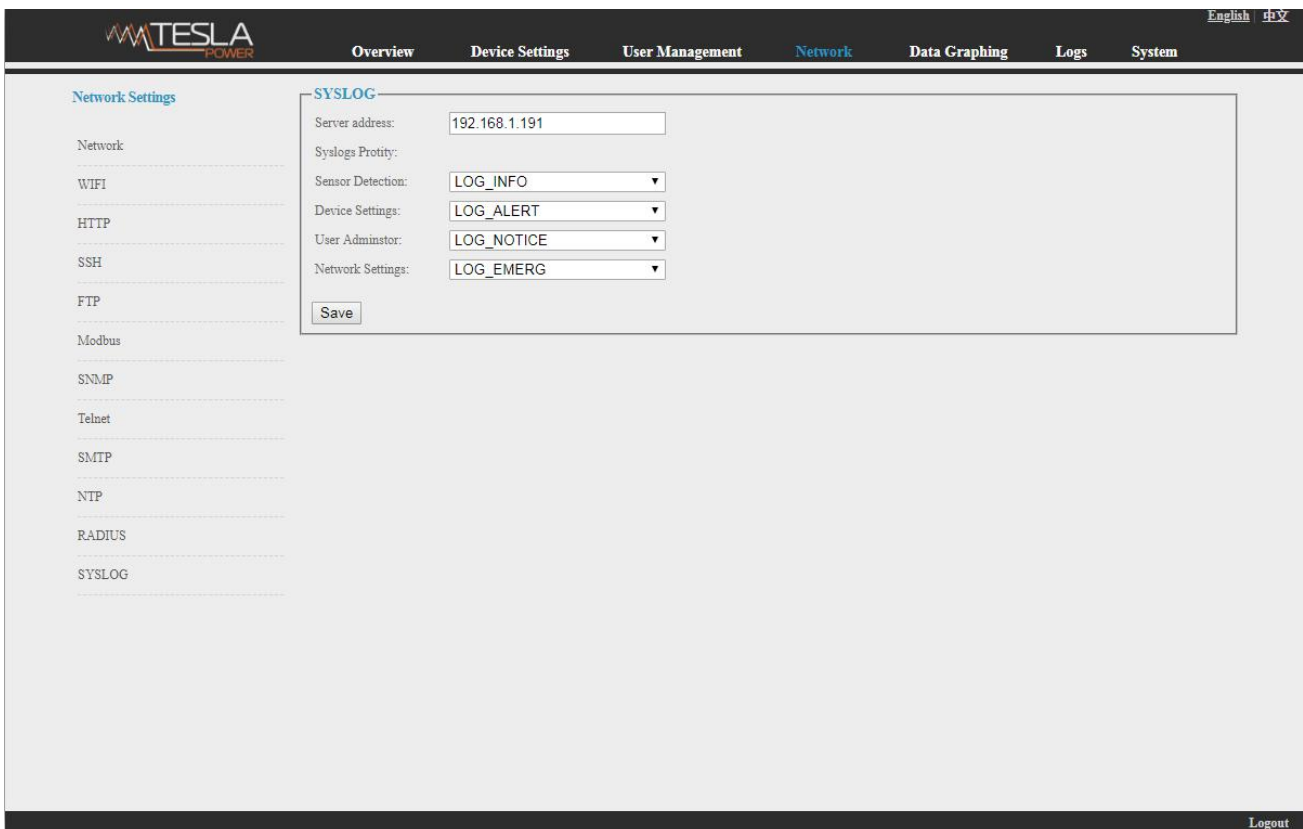

Figure 1-16
L. SYSLOG: fill in the SYSLOG server IP address and syslog protity as shown in figure 1-16